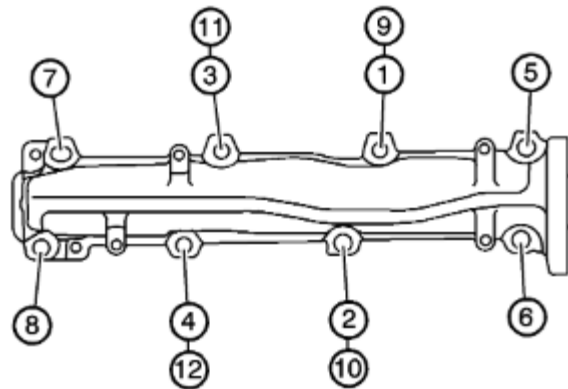

Fig. 108: Driver's side exhaust manifold tightening sequence
- a. Install new exhaust manifold gaskets onto the heads, then install the manifolds. Torque the bolts in the sequences shown in figures 108 and 110. Torque all bolts to 42 ft-lb. Once all bolts are torqued in sequence, torque the center four bolts again to 42 ft-lb.